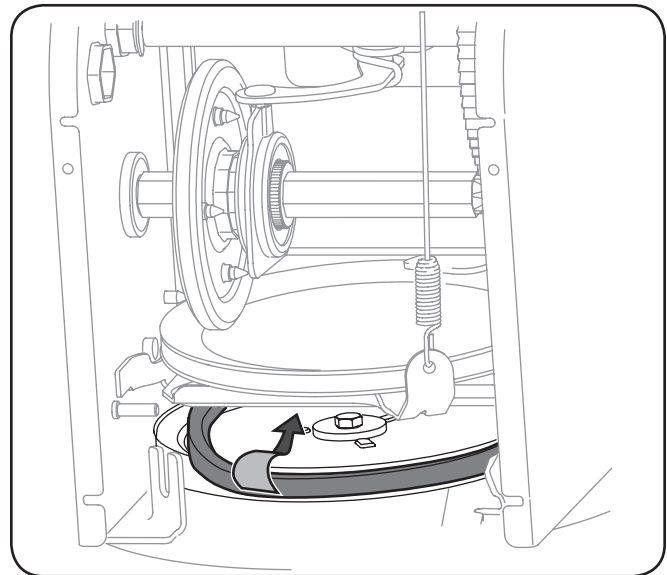

Figure 7-7
8. Remove the belt from around the auger pulley, and slip the belt between the support bracket and the auger pulley. See Figure 7-7.